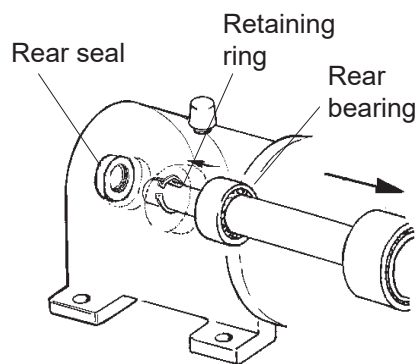

Figure 27
1. See Figure 27. Pull the rear oil seal off the drive shaft with a hooked tool.
1. Remove the rear seal. Remove the rear bearing retaining ring. Press the drive shaft out through the front of the gear case (through the rear bearing) (Figure 27).
3. Press the rear bearing out of the front of the gear case (Figure 27).